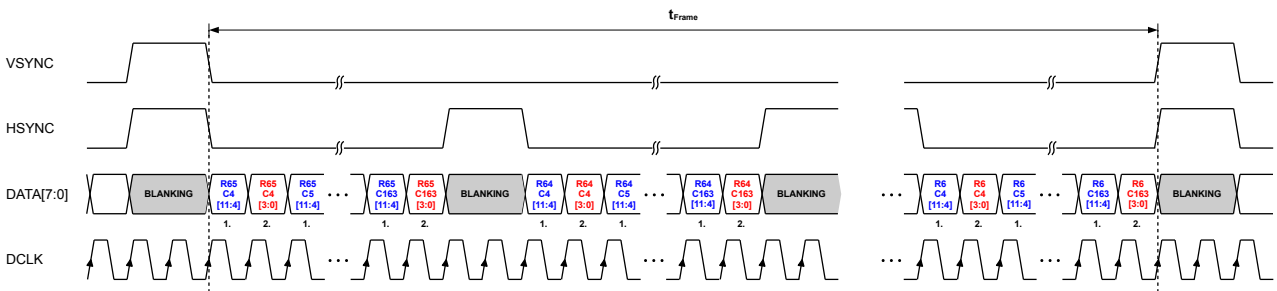

Figure 31: **msb/lbs** split mode
- **msb/l sb split mode:** Transfers 12 bit pixel data with MSByte leading and LSByte trailing with 2x DCLK. Refer to Table 14 and Figure 31.